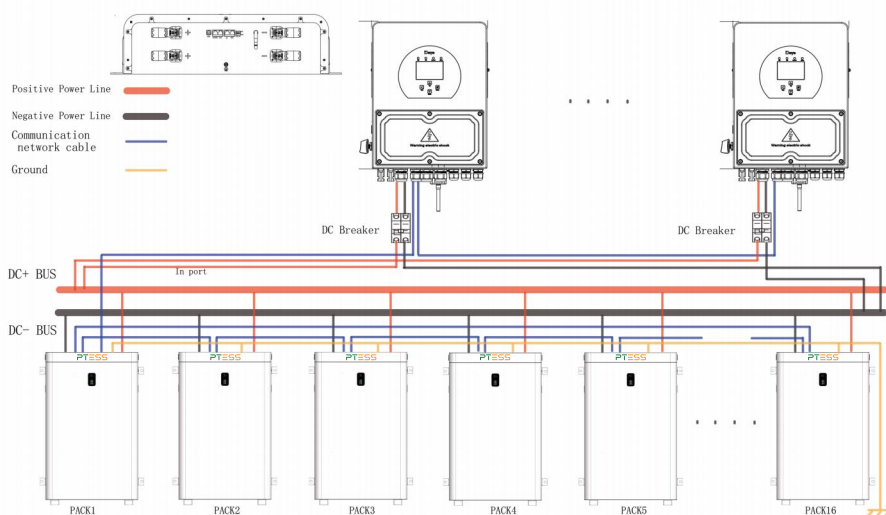

Figure 5-4: Multiple Batteries Connections
1.As shown in Figure 5-4, following the cable connection method of the single battery, connect the positive and negative cables between the Battery 1 and the busbar, Battery 2 and the busbar, and Battery N and the busbar respectively.
As shown in Figure 5-4, The CAN port realizes parallel operation and is connected using a standard RJ45 network cable. The automatic addressing output terminal of the upper level is connected to the automatic addressing input terminal of the lower level.